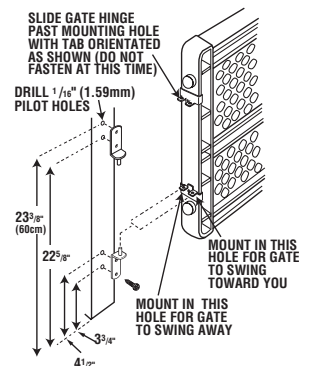

Figure 9
2. Slide the two gate hinges onto hinge side of gate as shown in figure 9. Fasten lower hinge with No. 6 x 5/8" screw (do not fasten top hinge at this time).
3. Fasten the two casement hinges to doorway using four No. 6 x 5/8" screws as shown in figure 9.
4. Place the bottom gate hinge onto the bottom casement hinge. If you want the gate to swing toward you, use the hole in the gate hinge closest to you (figure 9). If you want the gate to swing away from you, use the hole in the gate hinge farthest from you.